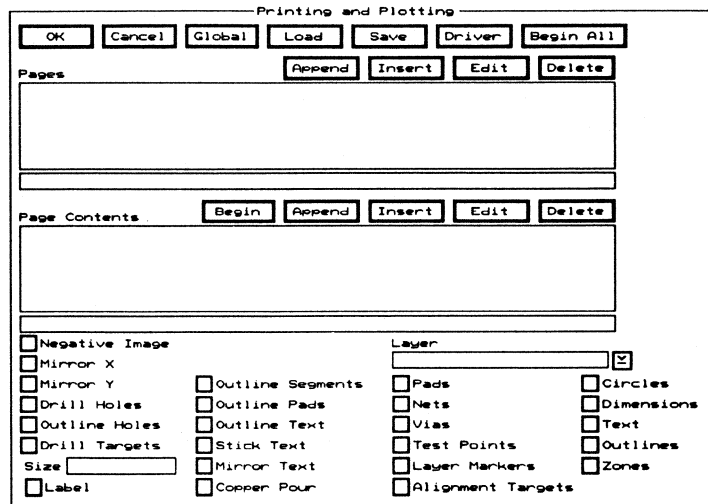

Figure 9-1. The **Printing and Plotting** dialog box.
2. Select **Printing and Plotting**. The **Printing and Plotting** dialog box displays (figure 9-1).